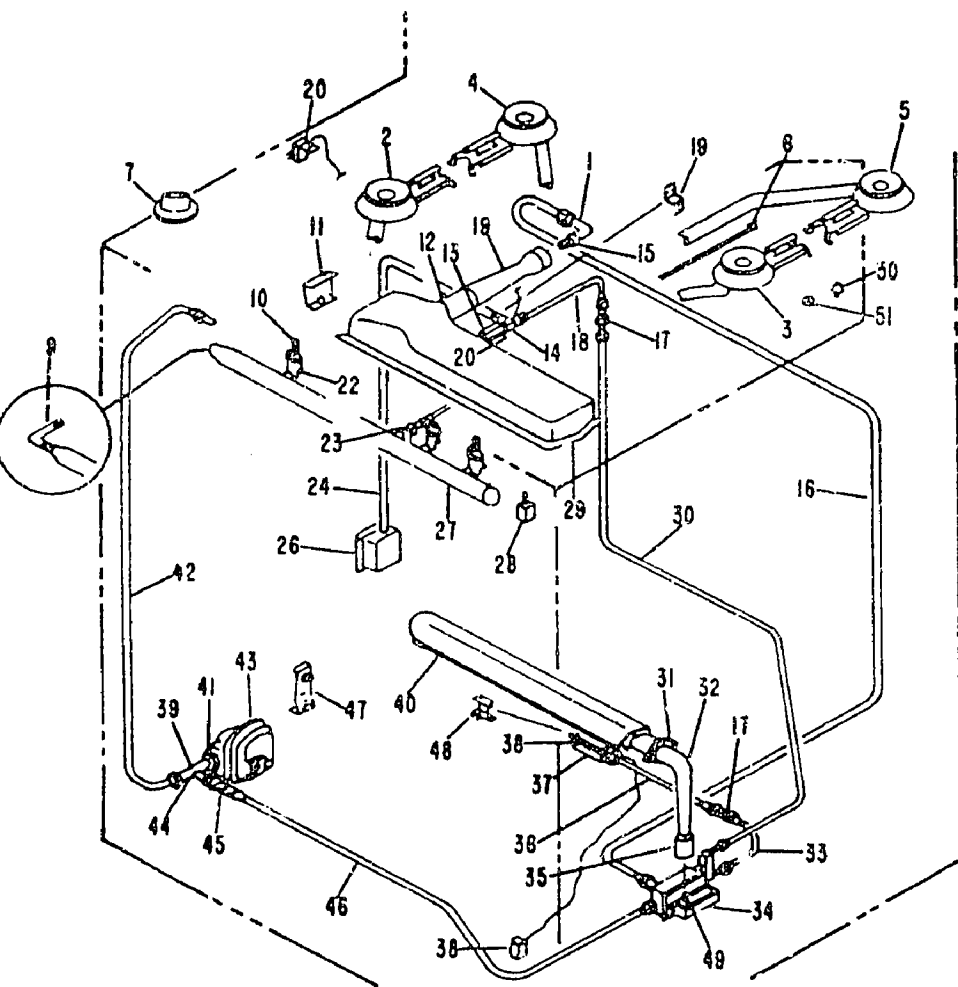

Figure 8
1. Identify by number (Fig. 8) the burner assembly-RR on a gas range.
2. Identify by number (Fig. 8) the orifice spud no. 49 on a gas range.
3. Identify by number (Fig. 8) the manifold on a gas range.
4. Identify by number (Fig. 8) the gas valve assembly on a gas range.
5. Identify by number (Fig. 8) the pilot assembly oven on a gas range.
6. Identify by number (Fig. 8) the flame switch oven on a gas range.
7. Identify by number (Fig. 8) the pressure regulator on a gas range.